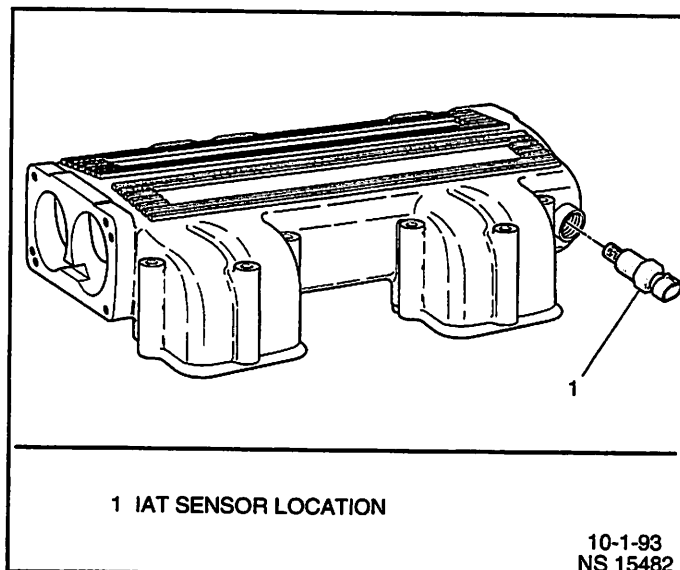

Figure 2-18 - IAT Sensor Location
1. TP sensor seal over throttle shaft as shown in Figure 2-18.